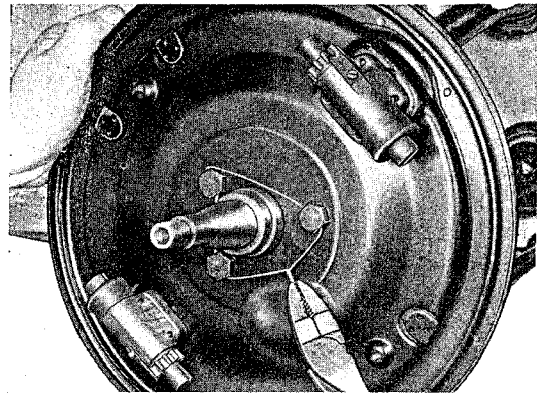

Fig. 29
7. After installation of the brake anchor plate, secure retaining screws with wire (fig. 29)